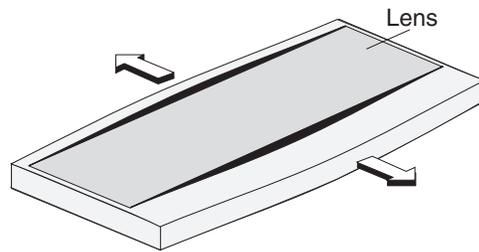

Figure 24. Removing the lens
4. To remove the lens from the frame for replacement, flex the frame outward (as shown by the arrows in Figure 24 on page 26), and snap the lens out.